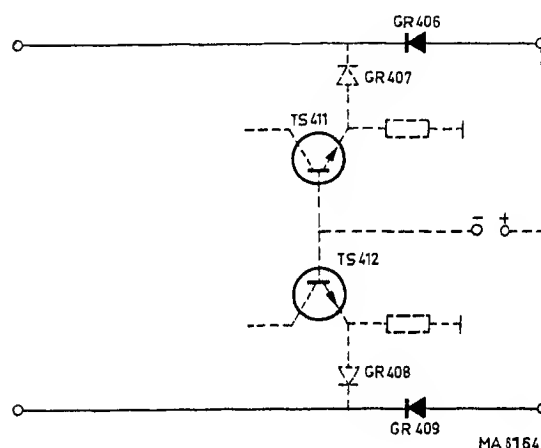

Fig. 19.
If the voltage on the emitters of TS411 & 412 is low with respect to the input voltage of the common amplifier, diodes GR407 & 408 are cut off. Then the signal current is fed to the input of the common amplifier via the conducting diodes GR406 & 409 (Fig. 19).
3. Bases TS411 & 412 negative (Fig. 19):